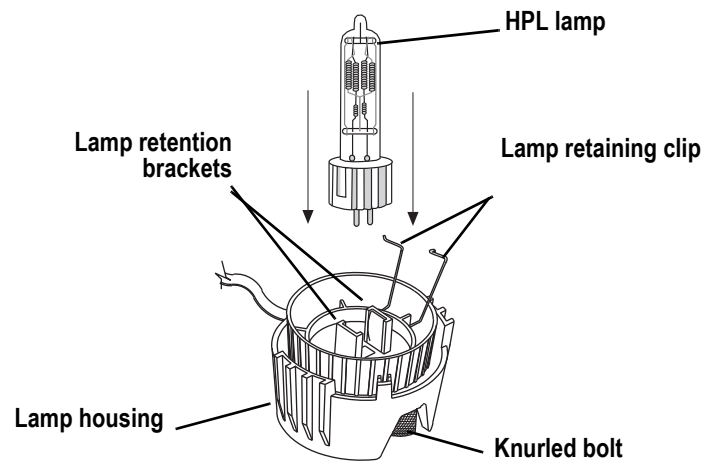

Figure 3
Step 4: Align the flat sides of the lamp base with the retention brackets on either side of the socket as shown in Figure 3.
- Step 1: To protect the lamp housing during cleaning, remove the lamp housing by loosening the knurled bolt and pulling the housing straight out. See Figure 3.